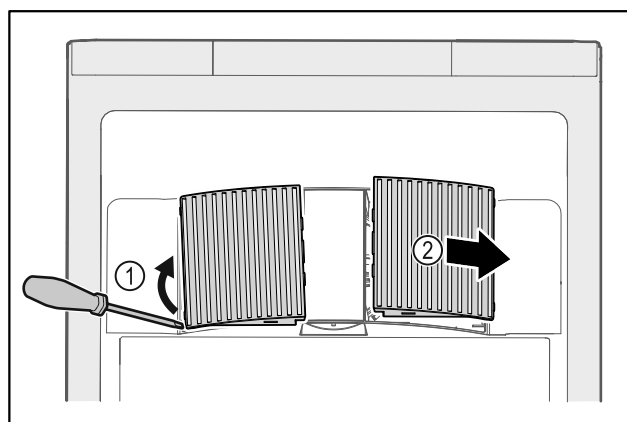

Fig. 133
- ▶ Carefully lever out fan covers from the side Fig. 133 (1) and remove towards the front Fig. 133 (2).